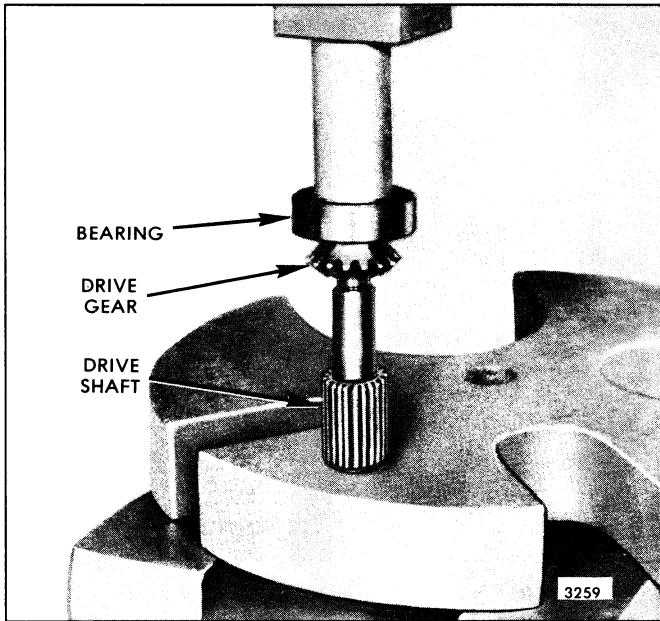

Fig. 7 - Installing Gear and Bearing on Governor Drive Shaft
- d. Place the shaft, gear and bearing assembly on an arbor press with the gear end up. Place a sleeve or brass bar on the inner race of the bearing and press the gear tight against the shoulder on the shaft (Fig. 7).